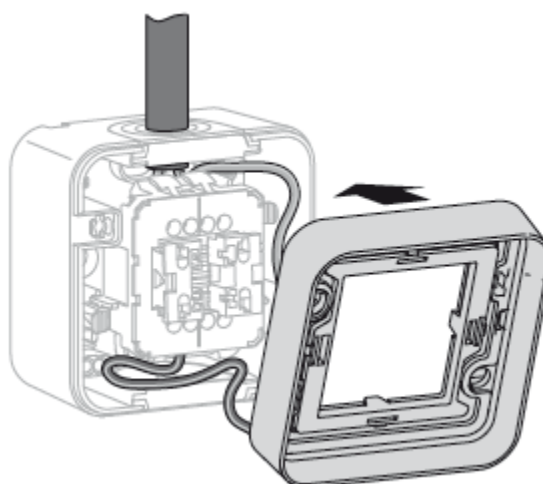

Figure 8
- Place the illuminated frame (3) in correct position onto the housing bottom part (Figure 8).